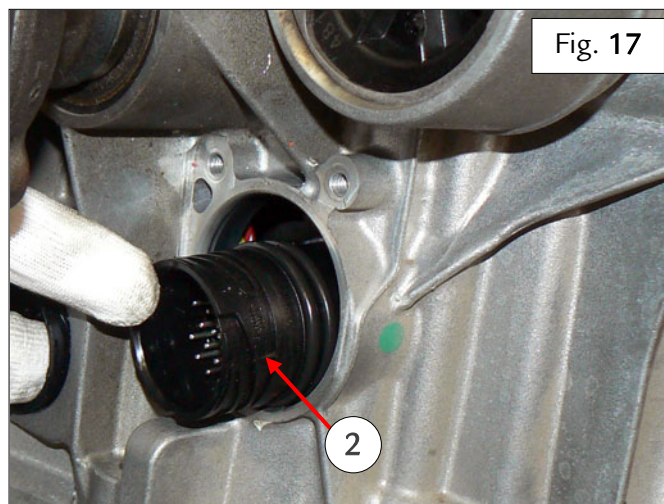

Fig. 17
- Fit and tighten the indicated plug – Fig. 17.
- Separate the differential housing by a few centimeters and push the connector (2) inside through the hole – Fig. 17.